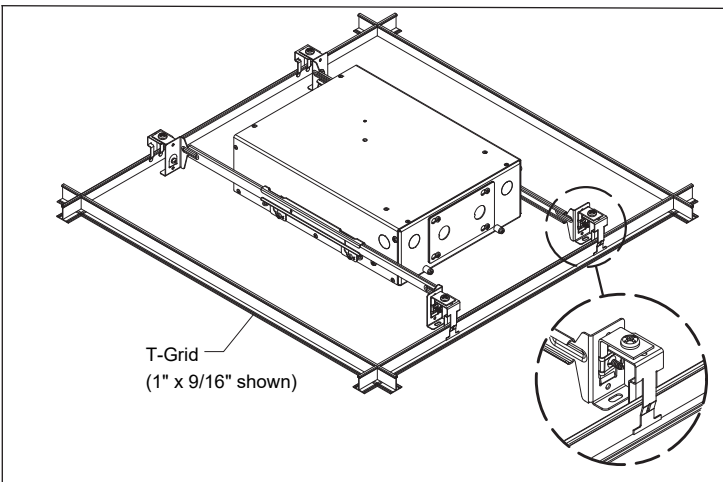

FIG 4.5 Attach to T-Grid
STEP 3 Extend Bar Hangers to position T-Grid Clip assemblies fixture onto T-Grid bars - **FIG 4.5**.
Attach fixture to T-Grid so Trim fits into Ceiling Tile opening. Adjust fixture's horizontal position & lock into place by tightening the Hanger Bar Lock Screws - **FIG 4.5**.